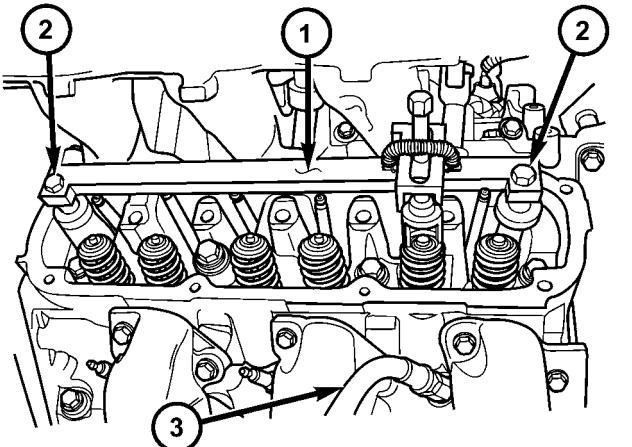

Fig. 37 VALVE SPRING - REMOVE/INSTALL (HEAD ON)
- (1) Disconnect negative cable from battery.
- (2) Remove spark plug wires and all spark plugs.
- (3) Remove cylinder head cover(s). (Refer to 9 - ENGINE/CYLINDER HEAD/CYLINDER HEAD COVER(S) - REMOVAL)
- (4) Remove rocker arms and shaft. (Refer to 9 - ENGINE/CYLINDER HEAD/ROCKER ARMS - REMOVAL)
- (5) Rotate engine until the piston in the cylinder bore requiring spring removal is at TDC.
- (6) Install Special Tool 8453 to the cylinder head (Fig. 37). Tighten the attaching bolts to 23 N·m (200 in. lbs.).
- (7) Install a spark plug adapter in the spark plug hole. Connect air hose that can supply 620.5–689 kPa (90–100 psi) of air pressure to adapter. This is to hold valves in place while servicing components.
- (8) Locate the forcing screw and spring retainer adapter assembly over the spring requiring removal (Fig. 37).
(9) Slowly turn the forcing screw clockwise (compressing the valve spring) until the valve keepers can be removed.
(10) Turn forcing screw counterclockwise to relieve spring tension. Remove retainer and valve spring.
(11) Repeat procedure for each cylinder requiring valve spring removal.